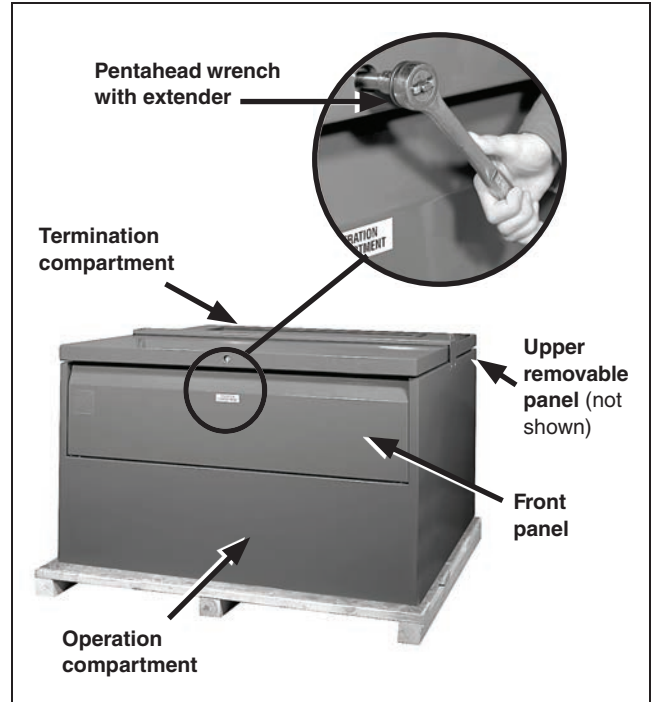

Figure 4. A pad-mounted style Vista switchgear enclosure with the roofs closed.
- STEP 1.** Loosen the pentahead bolts securing the hinged roofs to the enclosure using a pentahead socket wrench with extender or a pentahead tool. See Figure 4.